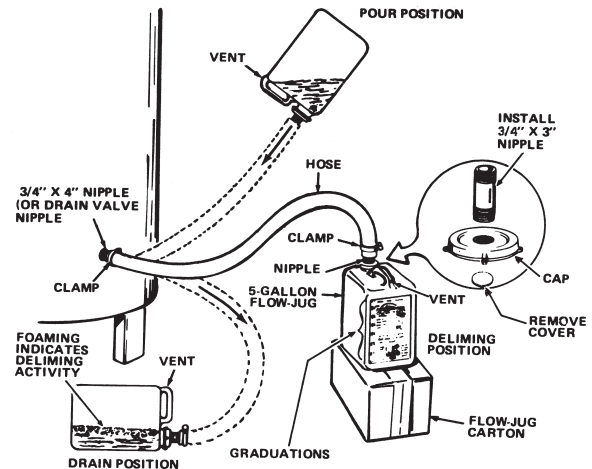

FIGURE 28.
- Lift container to the "Pour" Position, see Figure 28, being careful to keep the vent in the handle above the liquid level and pour the UN•LIME into the heater.
- Let UN•LIME remain in the heater for 5 minutes and then lower the container to the "Drain" Position, see Figure 28.